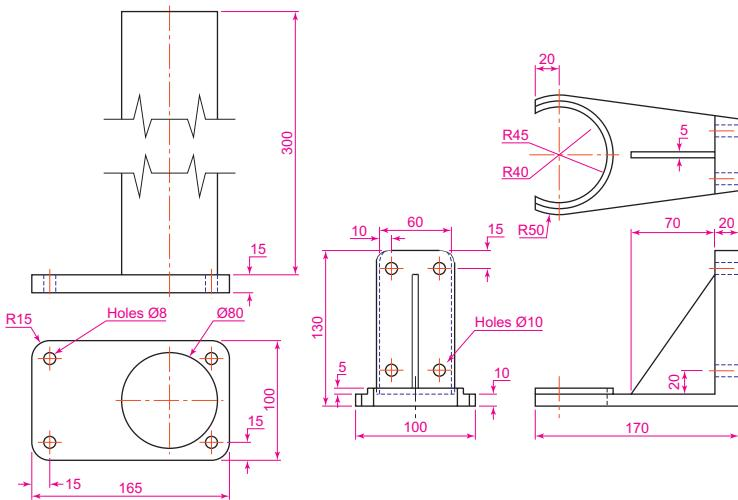

Fig. 15.38 Second example – **Rendering** – orthographic projection
1. Construct 3D models of the two parts of the stand and support given in the projections in Fig. 15.38 with the two parts assembled together.